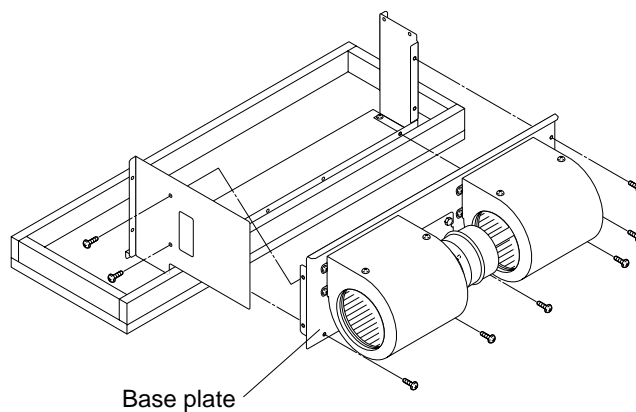

Fig. 4
- (1) Remove 8 screws holding the base plate for the fan and fan motor. (Fig. 4)